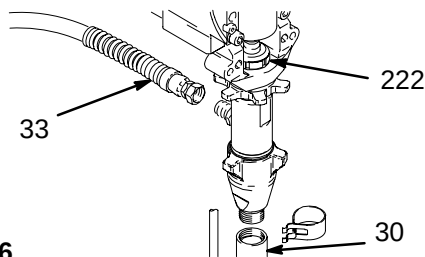

Fig. 16 7672B
3. Fig. 16. Cycle pump with piston rod (222) in its lowest position.
4. Fig. 16. Remove suction tube (30) and hose (33).